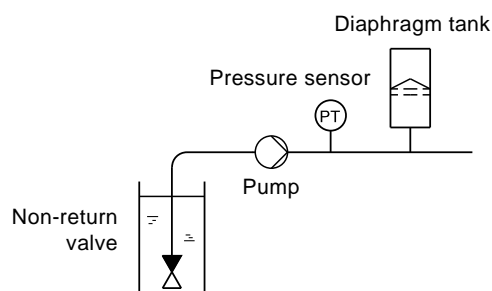
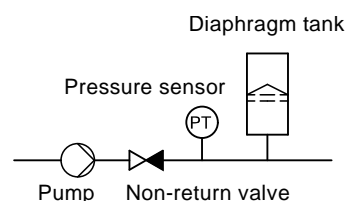

Fig. 28 Position of the non-return valve and pressure sensor in system with suction lift operation
Fig. 29 Position of the non-return valve and pressure sensor in system with positive inlet pressure
**Caution** *The non-return valve must always be installed before the pressure sensor. See fig. 28 and fig. 29.*